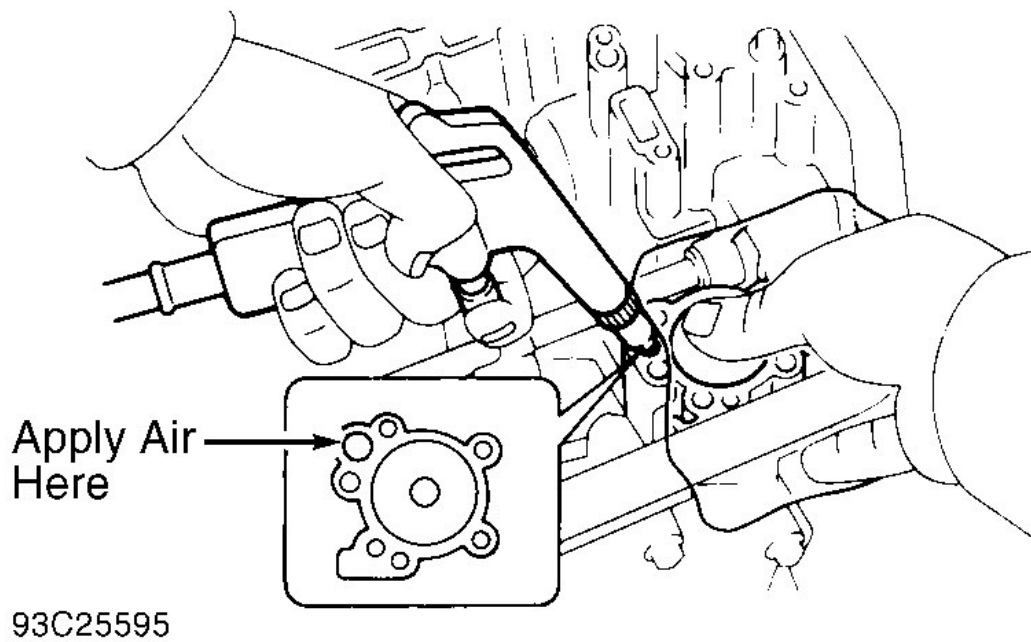

Fig. 14: Removing Underdrive Clutch Accumulator Piston & Spring
5. Apply 14 psi (1 kg/cm²) of compressed air to oil passage to remove the underdrive clutch accumulator piston and spring. See **Fig. 14**. Loosen accumulator cover bolts evenly until spring tension is released. Remove cover and gasket. Remove forward clutch accumulator piston and springs.